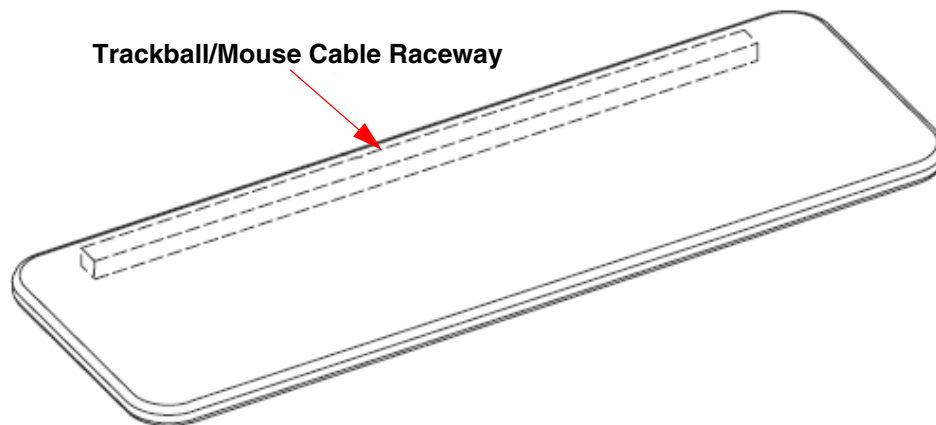

Figure 2-8 Trackball/Mouse Cable Raceway
- 3.) Route the trackball cable through the console desktop raceway (see Figure 2-8), and connect it directly to the SCIM.